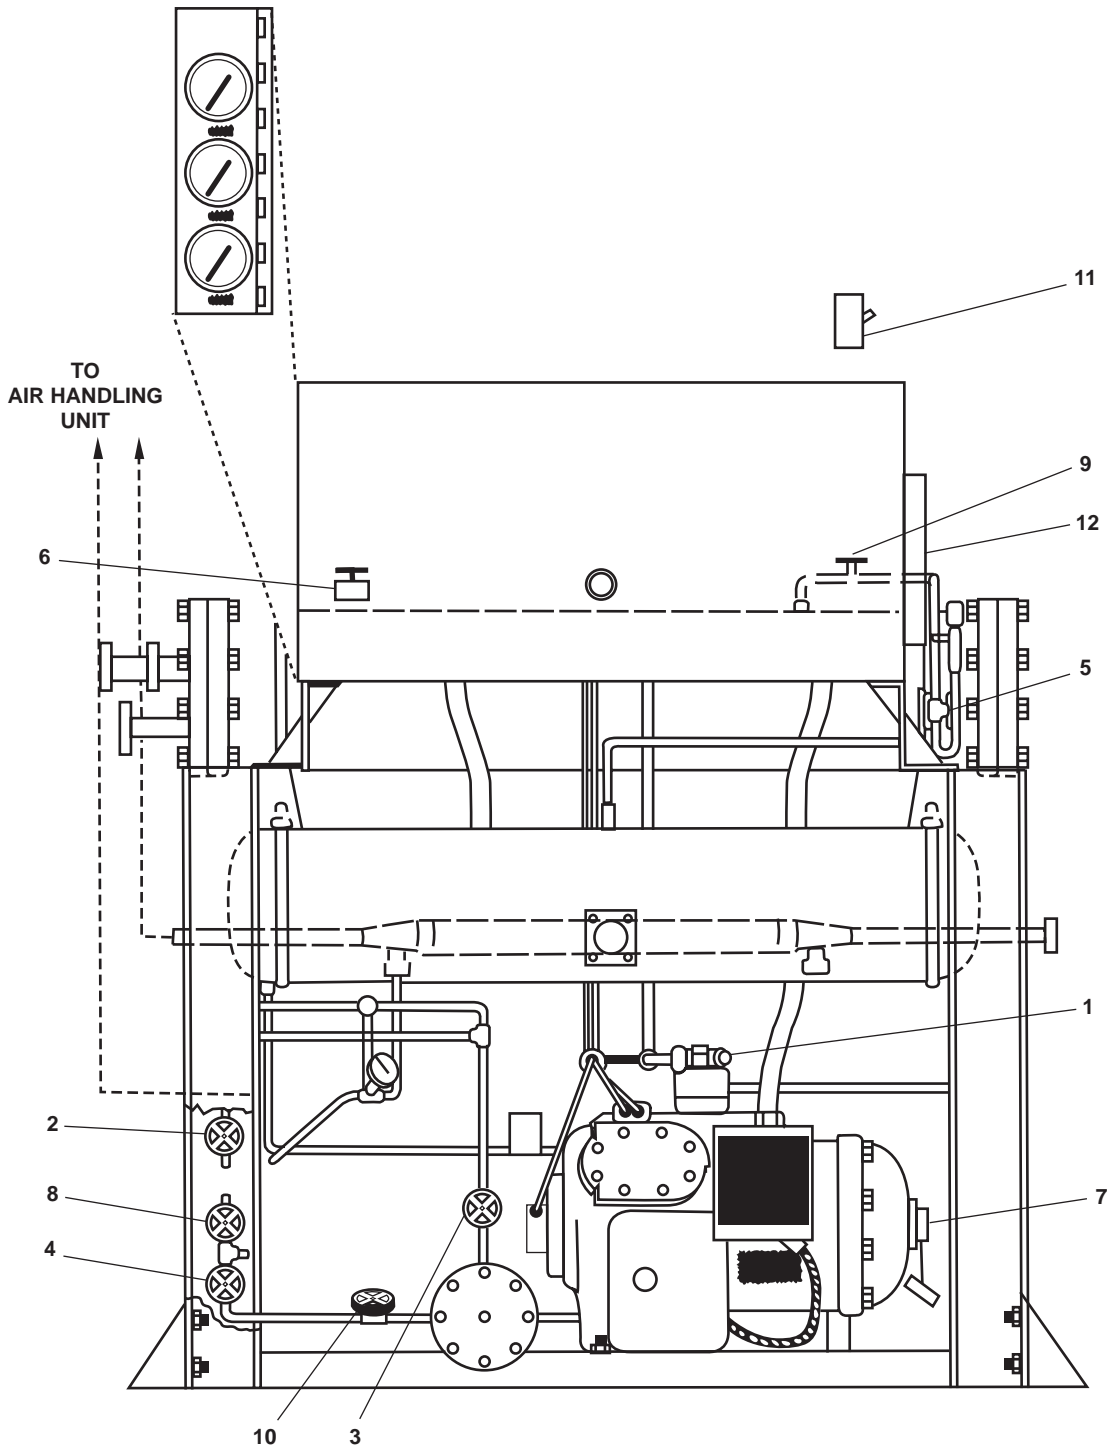

Figure 19. Condensing Unit Valves and Switches
- (1) Compressor discharge valve (figure 19, item 1)
- (2) Condenser outlet valve (figure 19, item 2)
- (3) Dehydrator outlet valve (figure 19, item 3)
- (4) Dehydrator inlet valve (figure 19, item 4)
- (5) Equalizing line valve (figure 19, item 5)
- (6) Water regulator valve actuating line valve (figure 19, item 6)
- (1) Compressor suction valve (figure 19, item 7)
- (2) Dehydrator bypass valve (figure 19, item 8)
- (3) Purge valve (figure 19, item 9)
- (4) Charge and drain valve (figure 19, item 10)
- a. OPEN the both air conditioning compressor suction valves (figure 19, item 7) one full turn.
- (1) Main power disconnect switch (figure 19, item 11)
- (2) Power ON/OFF switch (figure 19, item 12)
- c. Slowly, OPEN the compressor suction valves (figure 19, item 7) as suction pressure decreases.
- g. Slowly adjust the compressor suction valves (figure 19, item 7) as needed until proper suction pressure of 2.3 to 2.4 PSI (0.16-0.17 bar) has stabilized as indicated on the SUCTION gauge.
- a. Place the DEHYDRATOR INLET valve (figure 19, item 4) on the condenser unit being secured in the CLOSED position.
- (5) Relief valve bypass valve (figure 19, item 5)
- (7) Compressor suction valve (figure 19, item 7)
- (2) Dehydrator bypass valve (figure 19, item 8).